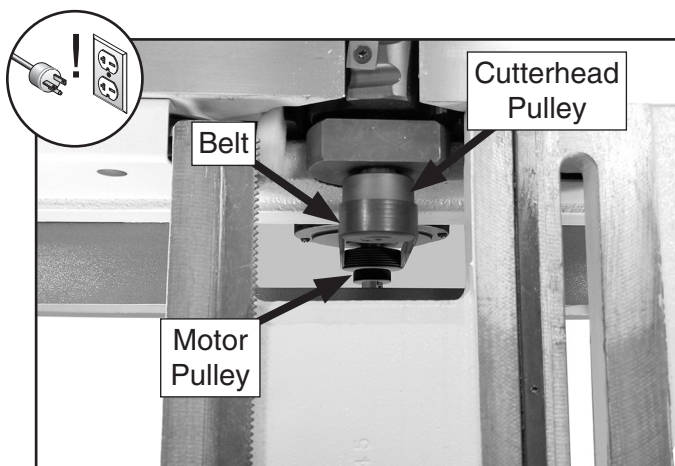

Figure 69. Checking pulley alignment (viewed from above).
3. Look down length of belt and pulley faces to check pulley alignment (see **Figures 69–70**). If available use a narrow straightedge against pulley faces to check alignment.